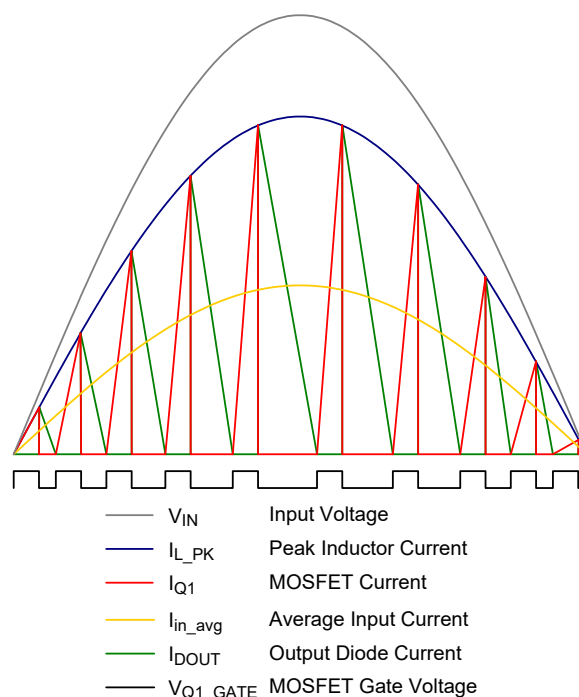

Figure 3. Inductor Current of CRM with Constant On-Time Voltage Mode Control
If the input voltage is a sinusoidal waveform and rectified by a bridge rectifier, the inductor current can be expressed using equation (2). When the converter operates in CRM with constant on-time voltage mode control, the envelope of the inductor peak current will follow (in phase) the input voltage waveform. The average inductor current will be half of the peak current, as shown in Figure 3. Therefore, the near unity power factor can be achieved with this control scheme.